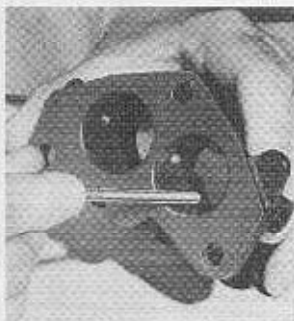

Fig. 20
**22** Clean out the upper idle discharge hole into throat, using the 9515-A cleanout tool with .037" diameter wire. See Fig. 20.